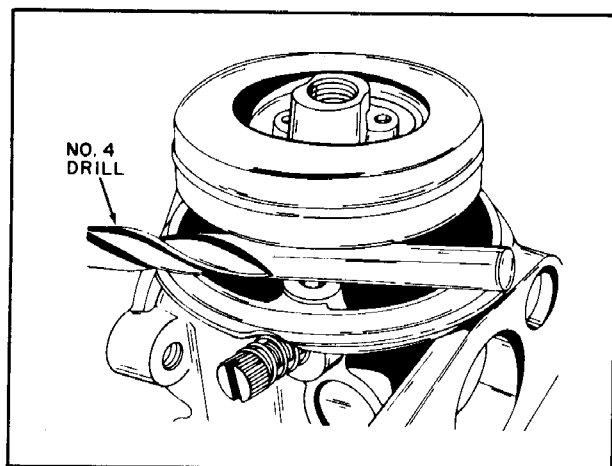

Figure 4-11
1. If the index pad on the carburetor body is not machined, measure the float setting from the rim of the carburetor body. The float setting from the rim of the carburetor body to the float is .200"-.220". For convenience, place a No. 4 (.209") twist drill across the rim between the center leg and the unmachined index pad, parallel to the float axle. (Figure 4-11) This will assure a uniform float setting.